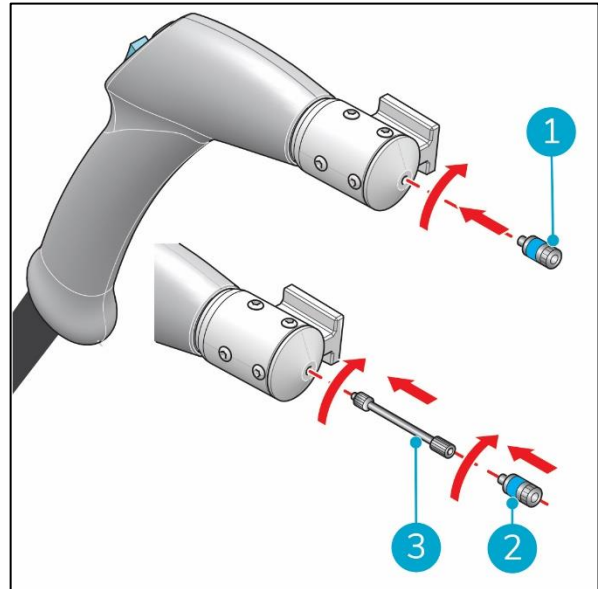

Figure 13
1. Turn the spray nozzle clockwise to attach it to the spray gun (Figure 13, pos 1).
1. Turn the extension tube clockwise to attach it to the spray gun (Figure 13, pos 3).
2. Turn the spray nozzle clockwise (Figure 13, pos 2) to attach it to the extension tube.